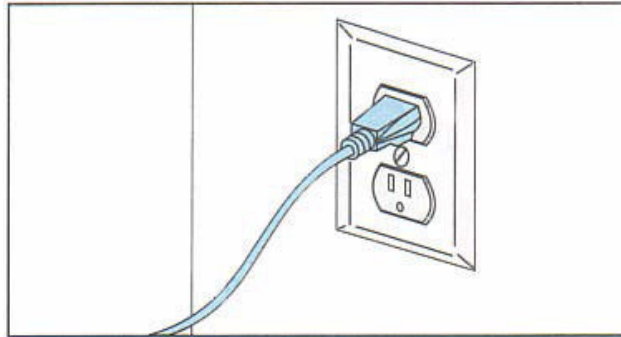

Figure 5: Connecting to a grounded electrical outlet
1. Connect the male end of the supplied power cord directly into a grounded electrical outlet, as shown in Figure 5 on page 21. (If using a Uninterrupted Power Supply (UPS), connect the cord directly into the UPS).